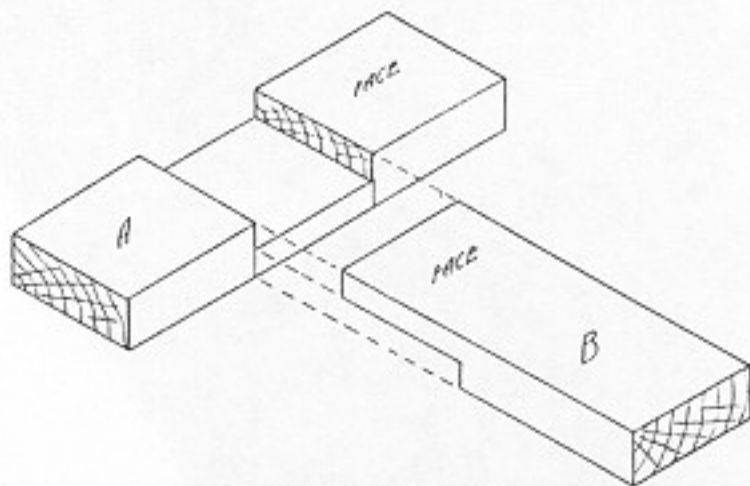

Fig. 198. Middle-lap joint.
7. If it is found that piece B (Fig. 198) is a little too wide for the recess cut in piece A, a little is planed off the edges of piece B. Nothing, however, should be chiseled off the shoulders of piece A. The joint must not be forced together.